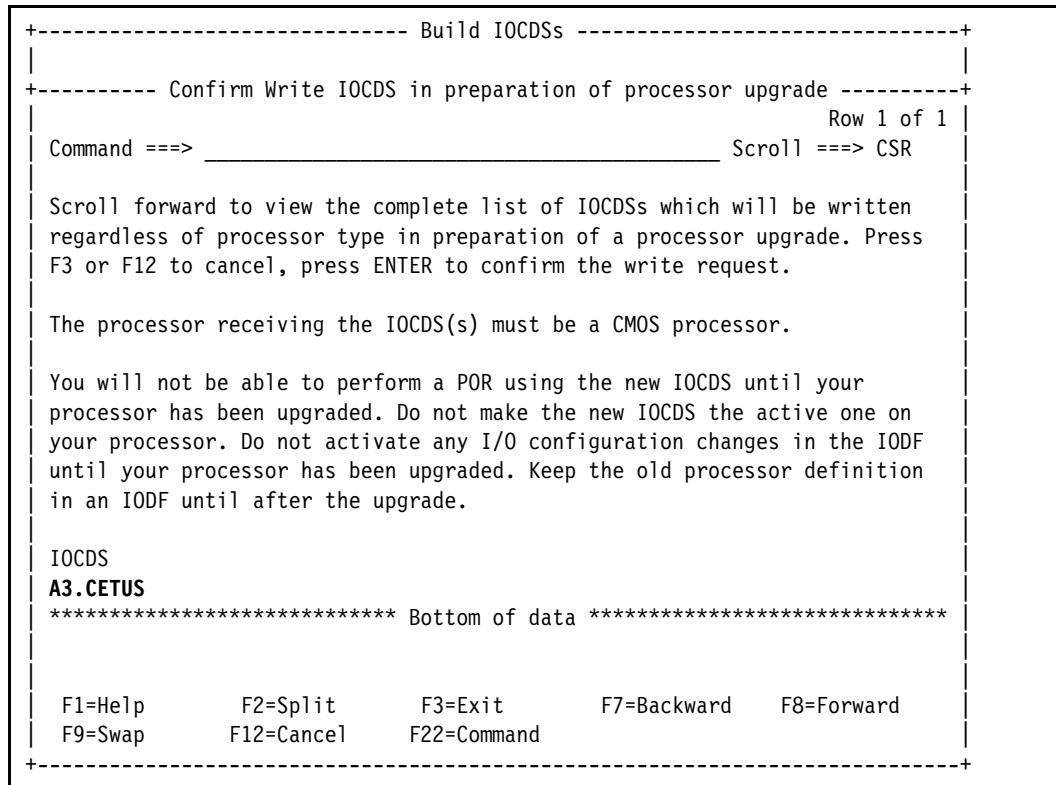

Figure 5-13 Build IOCDSs: Confirm write IOCDS)
- Because Yes was specified for the field (Write IOCDS in preparation of upgrade), HCD now displays a confirmation panel (Figure 5-13). Press **Enter** to continue.